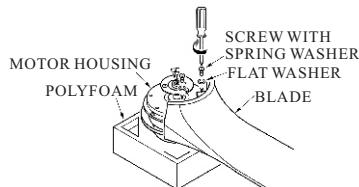

FIG.1
1. Attached each blade assembly to the housing using the blade screws .Tighten them securely.(See fig.1)